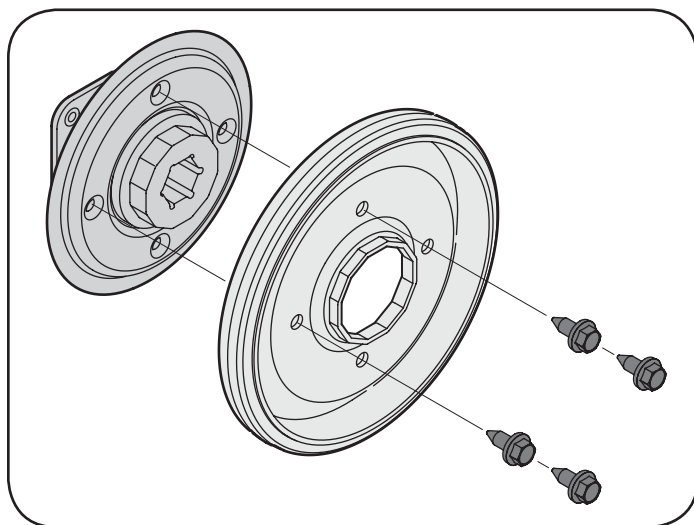

Figure 32
- Remove four screws securing the friction wheel rubber between the friction wheel plates. See Figure 32. Discard old rubber.